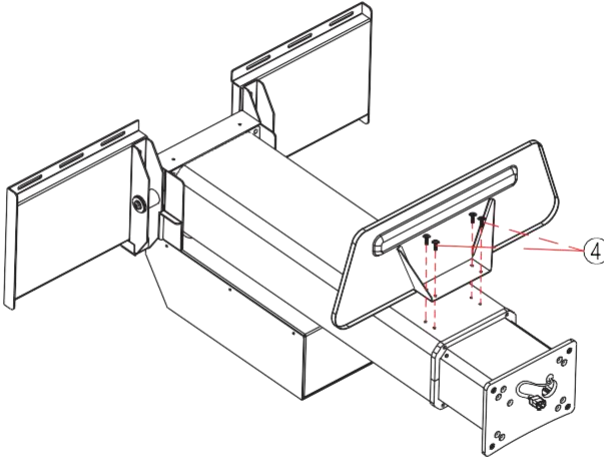

figure 2
Step2: Install the shelf D on the lifting column B (figure 2).